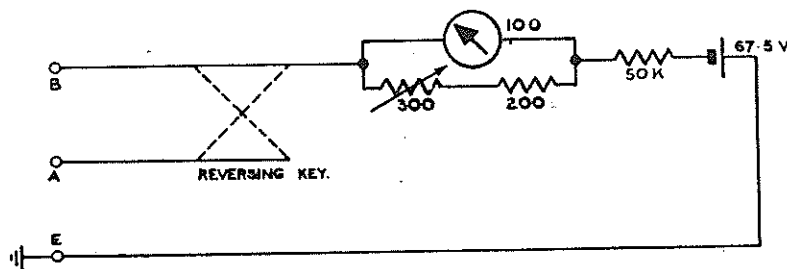

FIG. 3
6. Switch in Posn. 2 (Test for earth B, and earth A).—The earth terminal of the tester should be connected to earth. In this position of the switch, a resistance—variable between 200 and 500 ohms—is connected in parallel with the meter and the meter is connected between the B and E terminals, via the 67.5-V. battery and a 50,000-ohm resistor. The resistance value is adjusted so that, when a short-circuit exists between the B line and earth, a full-scale deflexion will be given. Adjustment of the variable resistor enables correct readings to be obtained with varying voltages down to 60 volts. The circuit condition for this test is shown in Fig. 3 and, with these connexions, it is also possible to measure insulation resistance to earth on the B line. Operation of the line-reversing toggle switch connects the instrument to the A line for a similar test. If the 'zero ohms' adjustment is correct, the combined resistance of the earth and line can be read directly on the meter scale; see also par. 9.